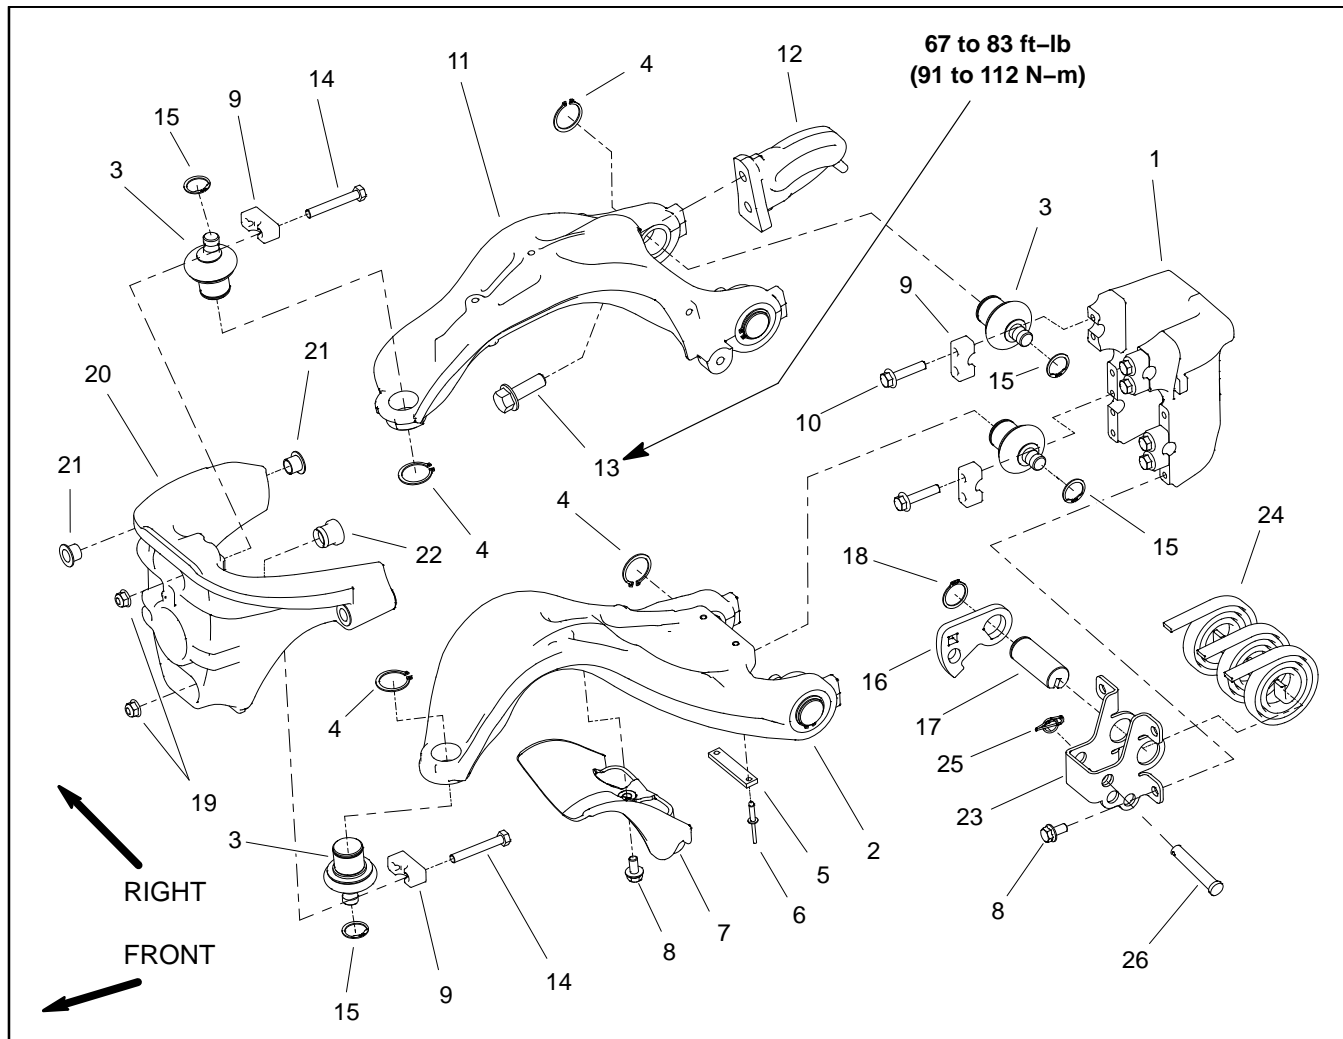

Figure 21
### Disassembly (Fig. 21)
2. Disassemble suspension assembly as required using Figure 21 as a guide.
### Assembly (Fig. 21)
1. Install all removed suspension assembly components using Figure 21 as a guide.
A. If any ball joint (item 3) was removed from A-arm, clean ball joint housing and A-arm bore with Loctite cleaning solvent (or equivalent) and allow to dry. Apply Loctite #609 retaining compound (or equivalent) to ball joint housing before inserting ball joint into A-arm.
B. If any clamp (item 9) was removed, make sure that raised boss in clamp bore is positioned in groove of ball joint stud before securing clamp.
C. If lift plate (item 12) was removed from A-arm, secure lift plate with two (2) flange head screws (item 13). Torque screws from **67 to 83 ft-lb (91 to 112 N-m)**.